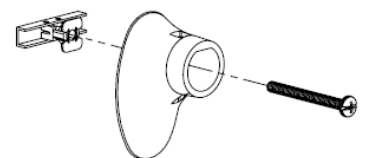

Figure 3
STEP 4. Drill 1/2" holes at the marked locations for each standoff, then insert a toggle in each hole (see toggle instructions on page 6). Using the 1/4-20x4" hardware supplied by Wallprotex attach the standoffs to the wall along the run (see Figure 3).